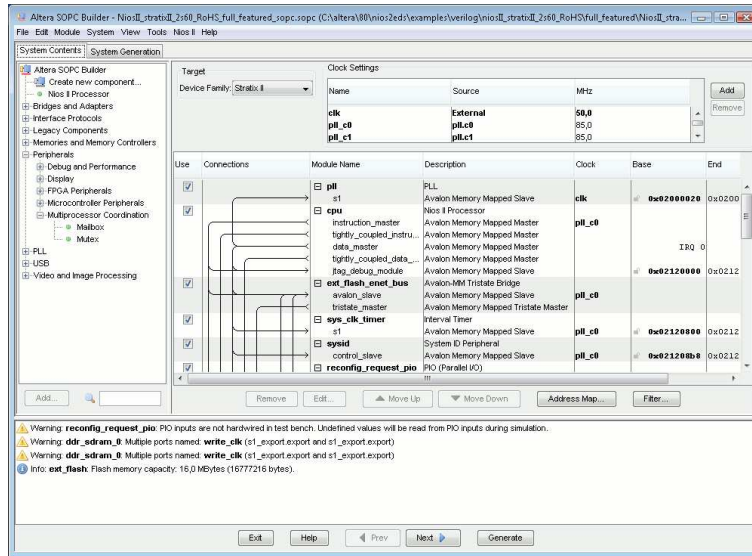

Figure 1.2: The SOPCBuilder windows that appears by opening an Altera project.
4. Open SOPCBuilder by double clicking on the SOPCBuilder block. A window similar to the one showed in Figure 1.2 appears.